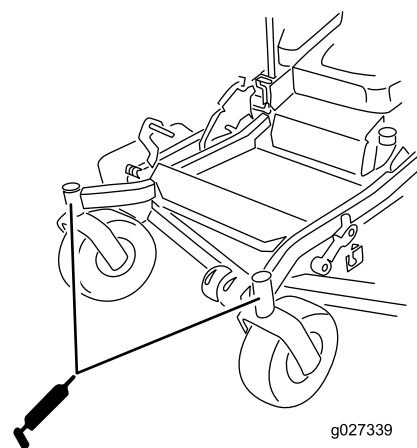

Figure 44
11. Install the hex plug and dust cap (Figure 44).